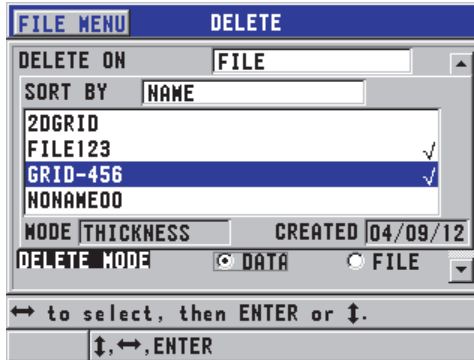

Figure 6-31 Deleting a file
2. In the **DELETE** screen (see Figure 6-31 on page 112):